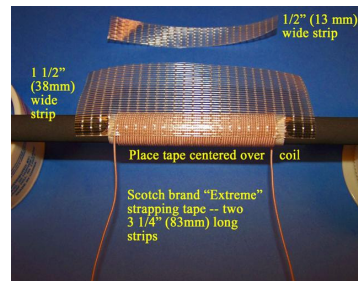

Figure 12
14) Refer to Figure 12. Cut off a 3 1/4" (83 mm) strip of Scotch brand "Extreme" strapping tape, and temporarily place the strip down on a table, adhesive side up. Using sharp, clean scissors, cut a 1/2" (13 mm) wide strip along the length of this 3 1/4" (83 mm) wide strip, resulting in two 3 1/4" (83 mm) long strips—one of them 1 1/2" (38 mm) wide, and the other one 1/2" (13 mm) wide. As shown in Figure 12, place the 1 1/2" (38 mm) wide strip down over the Litz wire coil, centered on both sides, in the position shown over the two Litz wire ends. Press the tape down firmly over the coil, working slowly and carefully around the circumference of the ferrite rod to ensure that the tape is flat and wrinkle-free around the coil (although some minor wrinkles on the end sections, where the tape touches the ferrite rod, are normal).